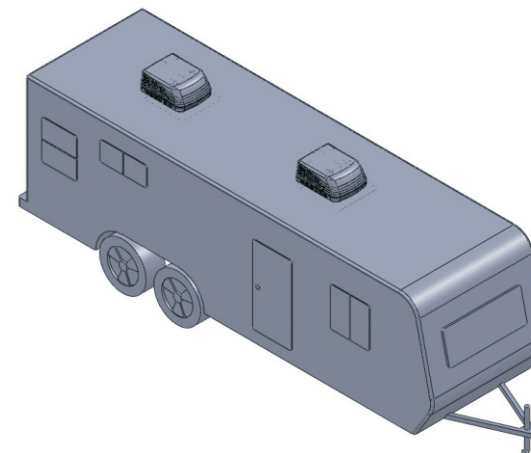

FIGURE 2
- For two unit installation: Install one air conditioner 1/3 distance and the other air conditioner 2/3's from front of RV and centered from side to side. See FIG. 2.